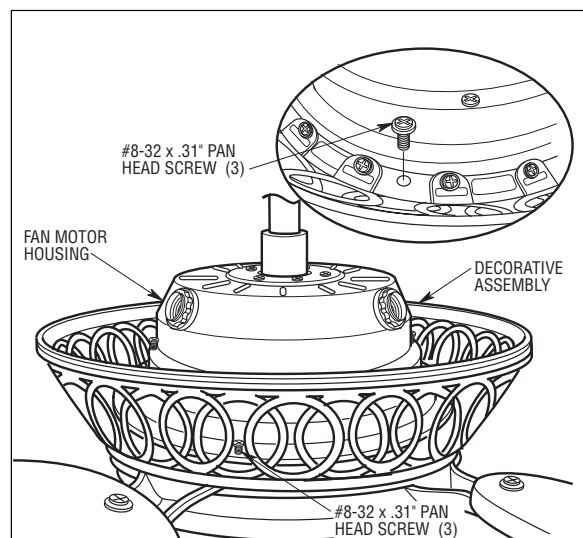

Figure 5
5. Remove the three #8-32 x .31" pan head screws (retain for future installation) from the top of the fan motor housing (Figure 5).
6. Place the upper decorative assembly onto the fan motor housing, aligning the screw holes. To secure the upper decorative assembly to the fan motor housing, reinstall the three #8-32 x .31" pan head screws (Figure 5).